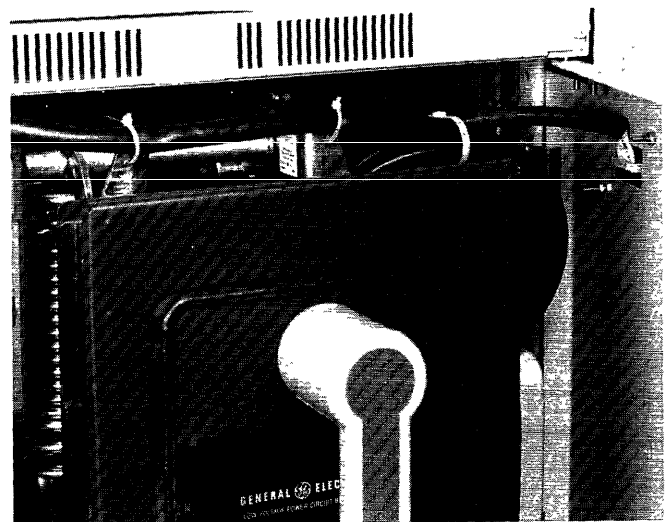

Figure 6. Connecting the Remote Display Harness.
4. Connect the remaining end of the harness to the Remote Display, as illustrated in Figure 6. To test the installation, press the Battery key on the Remote Display and verify that the information on the Remote Display matches the information on the main display. If it does not, recheck all the harness connections.